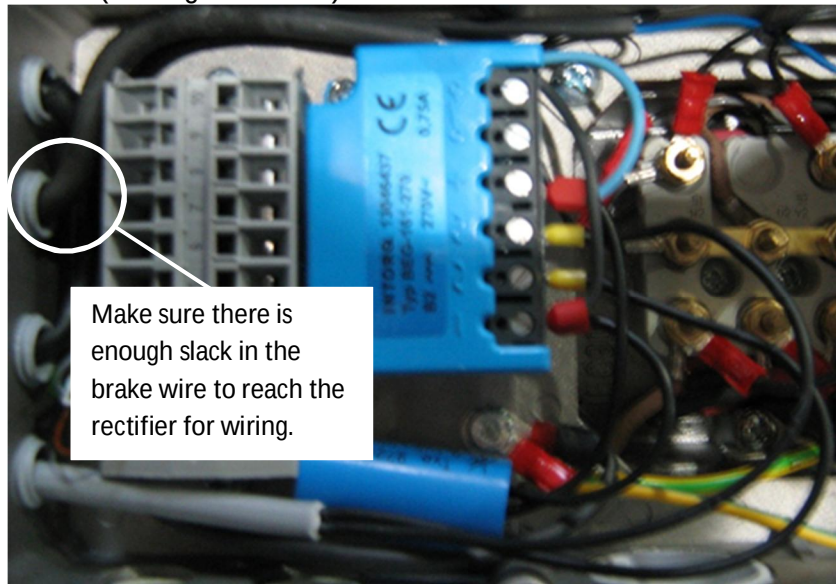
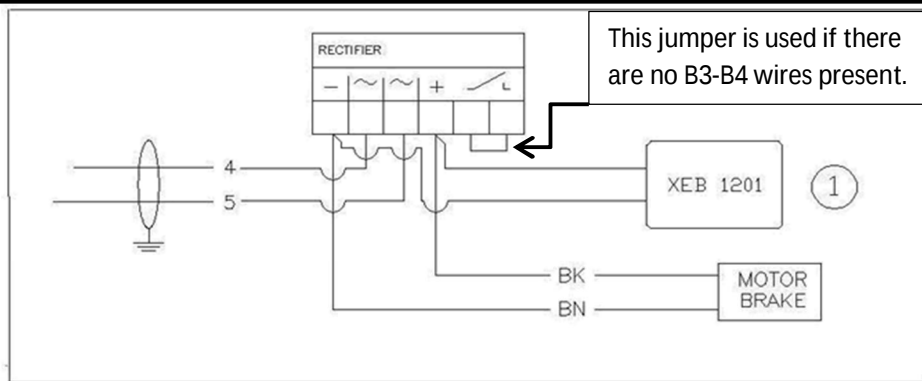

Figure 6
Figure 7
6. Land brake wires on rectifier as shown in Figure 6 and Figure 7. You will be required to pull the slack for the motor brake wires into the junction box and route it around the terminal blocks to allow the wires to reach the brake rectifier. Brake rectifier will not have the jumper from the last two terminals. (See Figures 6 & 7).